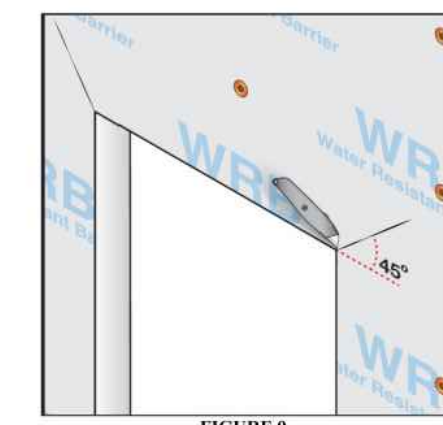

FIGURE 10
At the head of the opening, starting at the top corner of the exterior window (rough) opening, measure from the corner horizontal and then vertical a distance equal to the roll width of the flashing to be applied. At a 45° angle, carefully cut the WRB on a diagonal (see Figure 9). Repeat this step on the opposite corner. Trim 25 mm (1 in) off the bottom of the WRB head flap for proper integration with the head flange of the window. Raise the bottom edge of the flap created in the WRB up and temporarily tape to the exterior face of the WRB above (Figure 10). This is done in order to allow for installation of the exterior window and head flashing later.
**7.2.2 (For all WRB Wrap Methods) At the head of the opening, starting at the top corner of the exterior door (rough opening), measure from the corner horizontal and then vertical a distance equal to the roll width of the flashing to be applied. At a 45° angle, carefully cut the WRB on a diagonal (see Figure 10). Repeat this step on the opposite corner. Trim 25 mm (1 in) off the bottom of the WRB head flap for proper integration with the head flange of the door. Raise the bottom edge of the flap created in the WRB up and temporarily tape to the exterior face of the WRB above. This is done in order to allow for installation of the exterior door and head flashing later.**